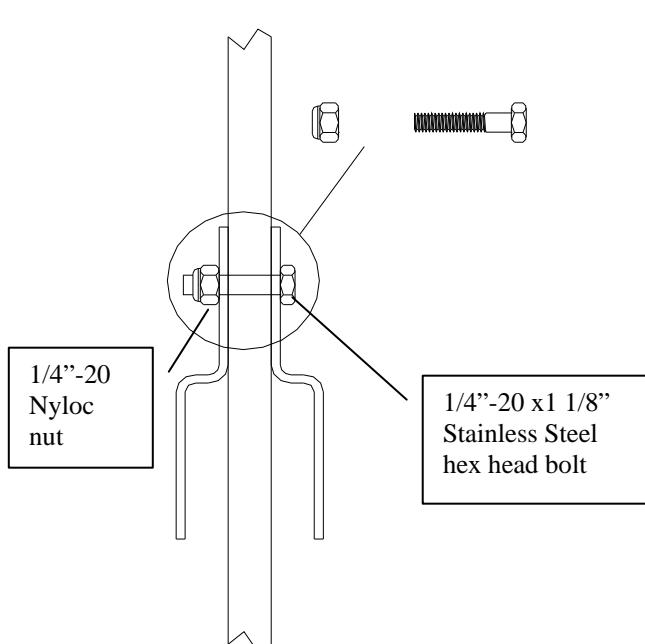
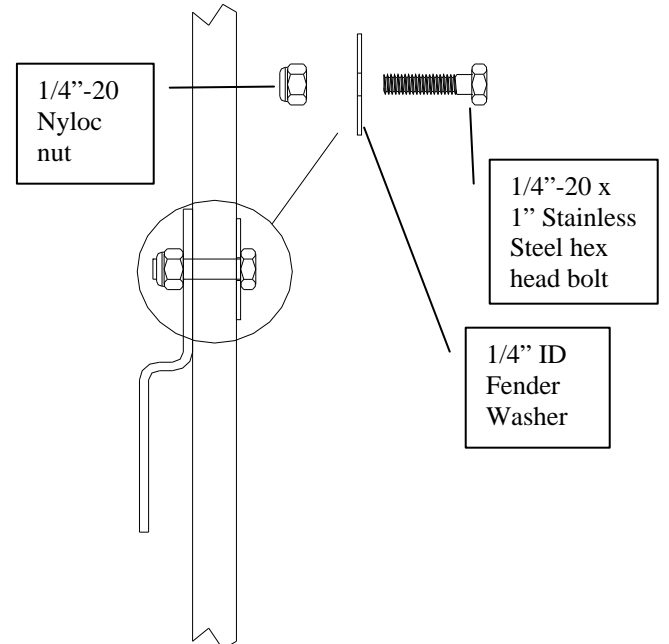

Figure 3.
Figure 4.
3. Using a 1/4" drill bit, drill (2) 1/4" diameter holes through the Division Panel on the marks made in Step 2.
5. Attach the brackets to the division panels using 1/4"-20 x 1 1/8" bolts, 1/4"-20 Nyloc nuts, and (for end runs) 1/4" ID Fender washers, (supplied) through the mounting holes in the support brackets. When attaching a bracket to both sides of a Division panel, see Figure 3. For end Division panels where only one bracket is being applied, see Figure 4.